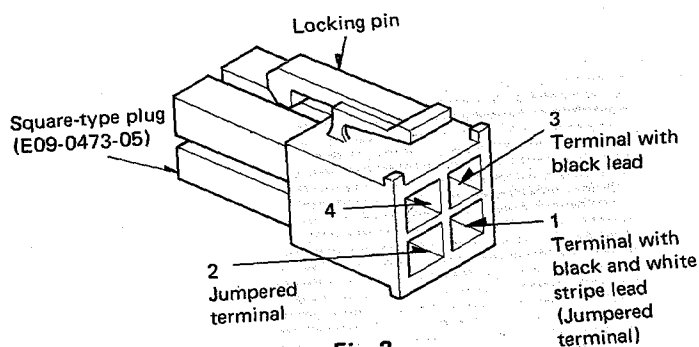

Fig. 2
1. Remove the connector with jumper from the External Speaker connector on the rear panel of the radio. (Fig. 2)